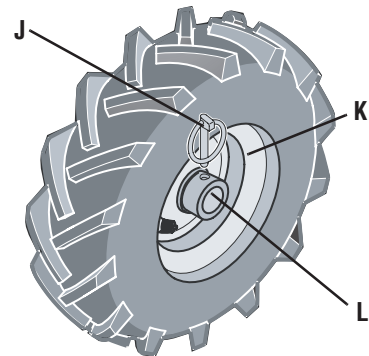

Fig. 2.3: Wheel in FREEWHEEL position (wheel drive pin through wheel shaft only).
2. Remove the Klik Pin (J, Fig. 2-3) from the wheel hub (K) and wheel shaft (L).
3. Slide the wheel fully inward on the wheel shaft (N, Fig. 2-3). Reinstall the Klik pin (J) through the wheel shaft (L) only (not through the wheel hub). The wheel should now spin freely (freewheel) on the wheel shaft. Repeat with the other wheel.